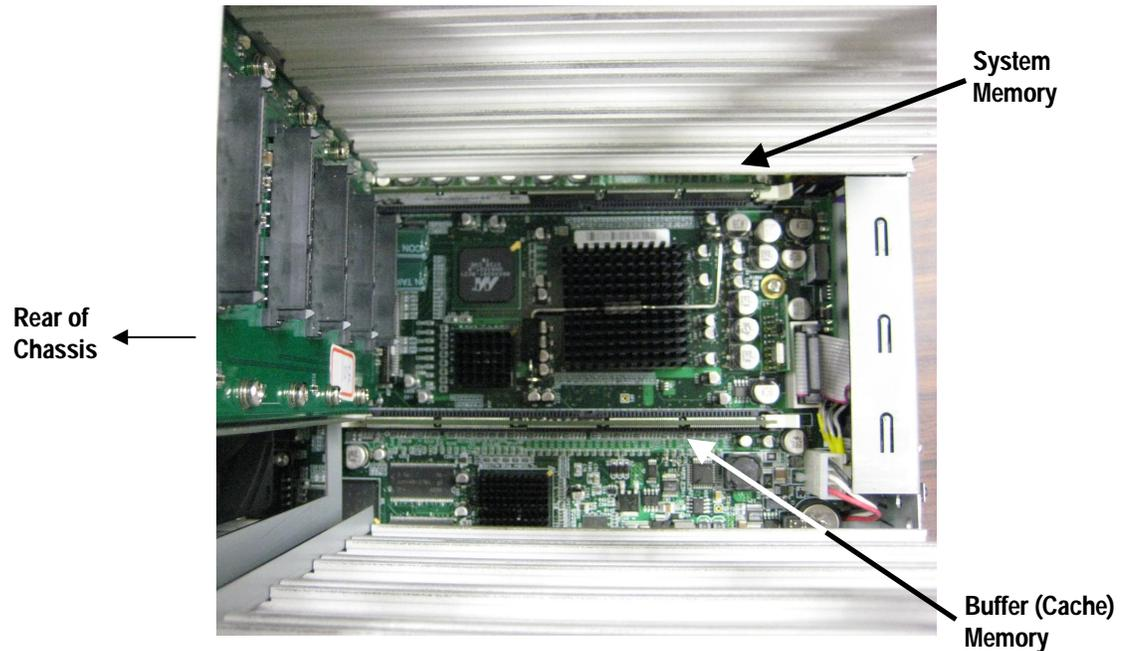

Figure A-10. Looking down at the controller board.
System Memory: The xStack Storage controller can address up to 512MB of system memory. Your controller comes standard with 256MB (1 x 256MB module). Please see Figures A-10 and A-12 for the system memory location.
Buffer (Cache) Memory: The xStack Storage controller can address up to 1GB of buffer memory, and comes standard with 256MB (1 x 256MB modules) installed. This should work well for most applications. However, several applications (such as video streaming) of the product could benefit from increased cache memory. Please see Figures A-10 and A-11 for buffer memory location. Note on Memory: Table A-1 lists the specifications for DIMMs supported by the xStack Storage Array. These memory module specifications are crucial to the operation of your SAN array. Please visit the support.dlink.com website for tested memory modules.
4. Remove all five drive trays from the system and look down at the controller board as shown in figure A-10. Be sure to orient the rear of the system to your left as shown.
5. Locate the DIMM socket where you will be removing or installing the DIMM (see Figure A-10, A-11 and A-12).